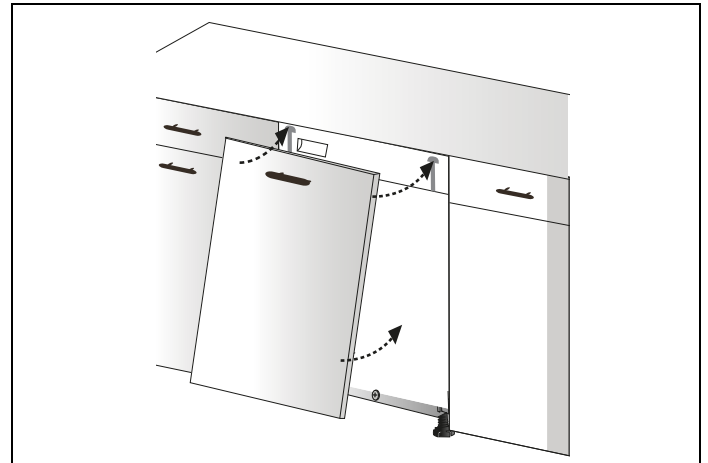

Fig. 27
- 7) Door mounting plastics located on the wooden door are fitted with the dishwasher corresponding to the discharges located on the control panel and are assembled as shown in Fig. 27 .